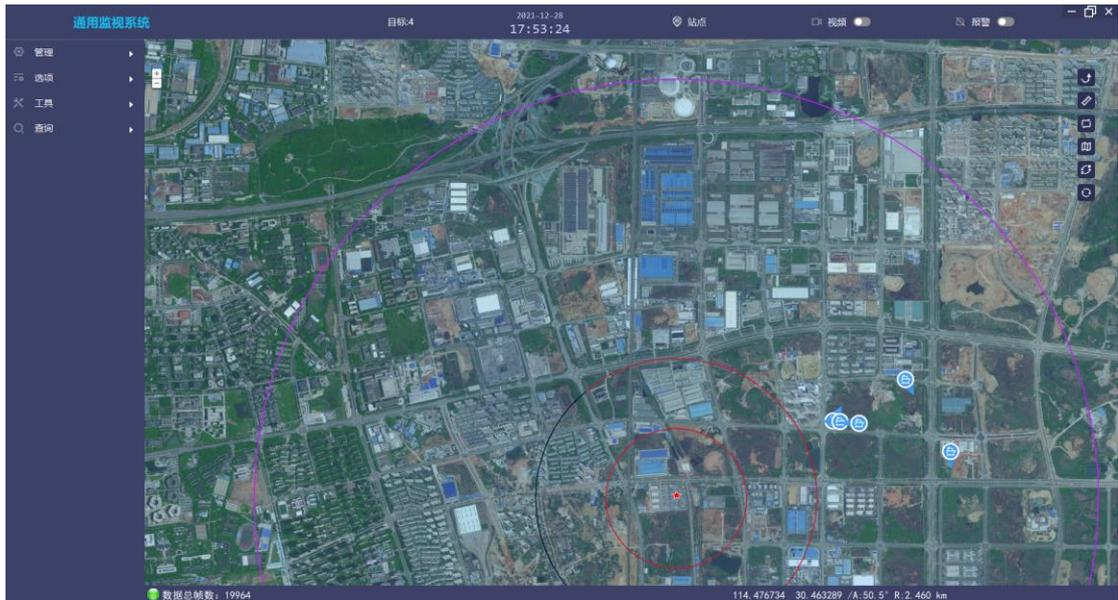

Figure 4 Interface of Chinese version
3. Enter computer settings - region and language: change the window display language to Chinese, and the system restarts. Run LGSS software, and all functional interfaces of the software are displayed in Chinese. The interface effect is shown in Figure 4: